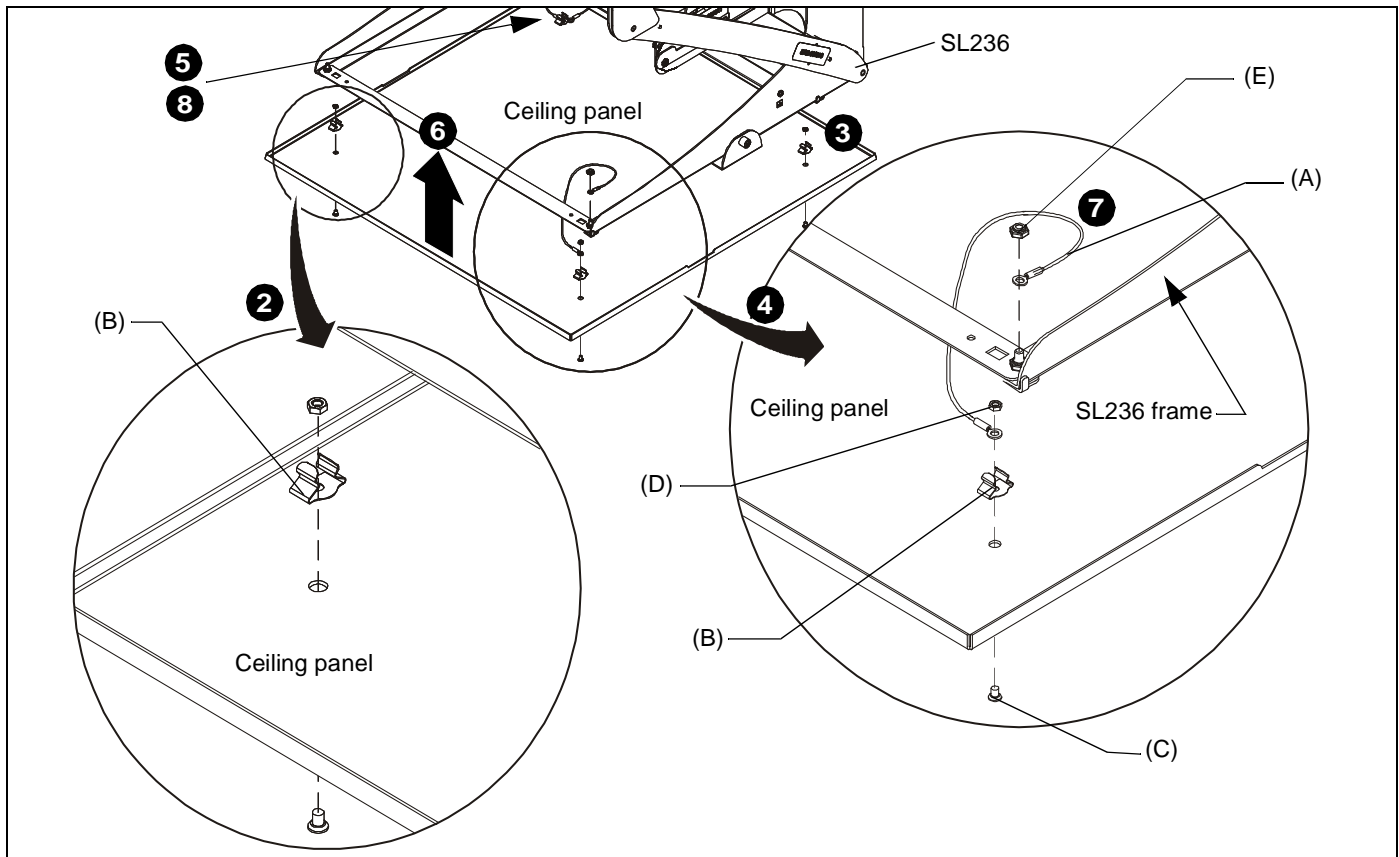

Figure 2
2. In one corner, install one 08-32 x 1/4" Phillips undercut machine screw (C), one spring clip (B) and one 08-32" nut (using wrench [F]). (See Figure 2)
3. Repeat in opposite corner of ceiling panel. (See Figure 2)
4. In corner without installed clips, install one 08-32 x 1/4" Phillips undercut machine screw (C), one spring clip (B), one end of cable (A), and one 08-32" nut (using wrench [F]). (See Figure 2)
5. Repeat in opposite corner of ceiling panel. (See Figure 2)
6. Raise ceiling panel up to SL236 frame and insert spring clips into rectangular holes on SL236 frame. (See Figure 2)
7. In corner with cable, install cable onto SL236 frame and fasten with 10-24 nut (E). (See Figure 2)
8. Repeat in opposite corner of ceiling panel. (See Figure 2)